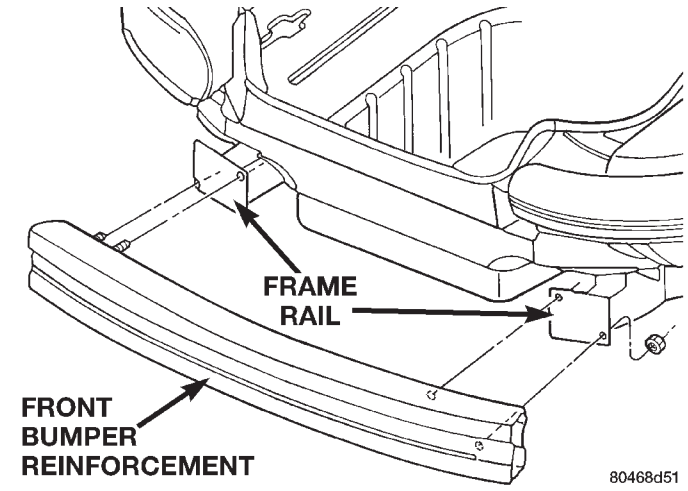

Fig. 6 Rear Bumper Reinforcement
- (1) Remove rear fascia.
- (2) Support bumper reinforcement on a suitable lifting device.
- (3) Mark position of nuts on frame rail to aid in installation.
- (4) Remove nuts holding rear bumper reinforcement to frame rail (Fig. 6).
- (5) Separate bumper reinforcement from vehicle.